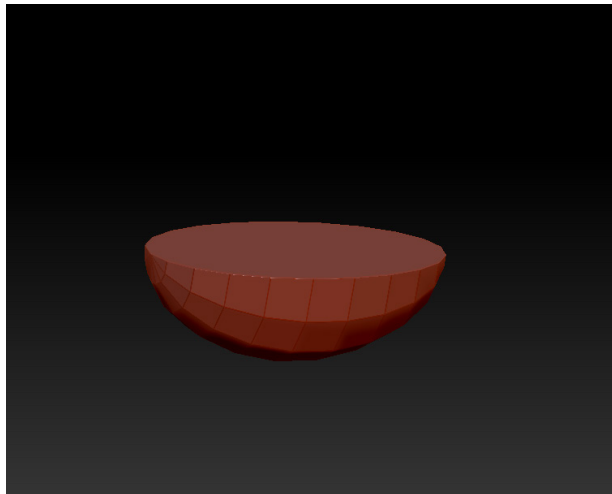

Figure 3-112 Shape of the sphere changed
4. In the **Initialize** subpalette of the **Tool** palette, set the value of the **X Size** slider to **36** and the **Coverage** slider to **180**. Figure 3-112 shows the changed shape of sphere.